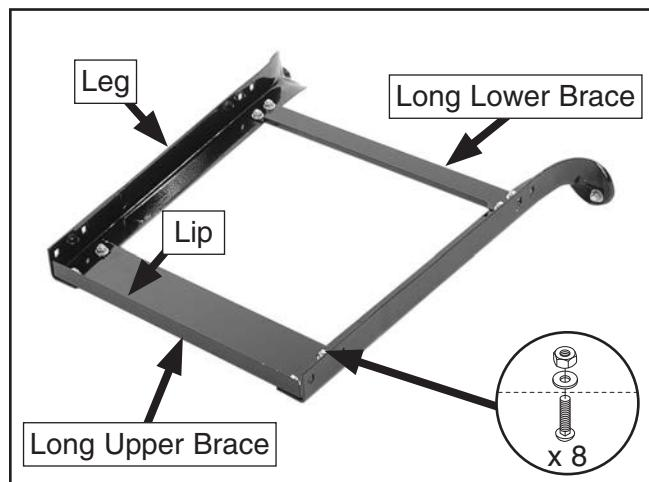

Figure 14. Stand legs fastened to long braces.
3. Fasten a long upper and long lower brace to the two stand legs with (8) $\frac{5}{16}$ "-18 x $\frac{1}{2}$ " carriage bolts, $\frac{5}{16}$ "-18 hex nuts, and $\frac{5}{16}$ " flat washers, as shown in **Figure 14**. Finger tighten the fasteners for now.